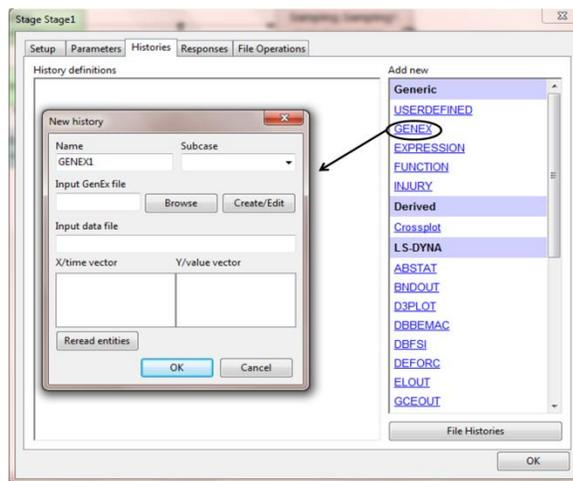

Figure 7: GenEx history dialog box
2. Similar to responses, GenEx histories require an input data file and its corresponding .g6 genex file, as shown in figure 7.